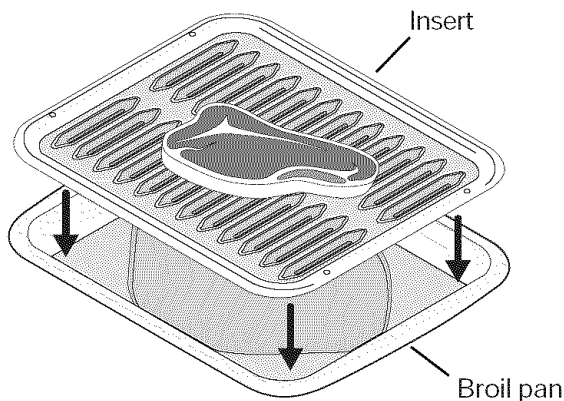

Fig. 1
- Use the recommended pans and oven rack positions for the type of meat being prepared - *p.22 Figs. 1, 2 & 3-*.
The broil pan insert (if equipped) contains slots that allows grease from the meat to drain into the broil pan. Place prepared meat on broil pan insert and then place onto broiler pan as shown -*Fig. 1*.